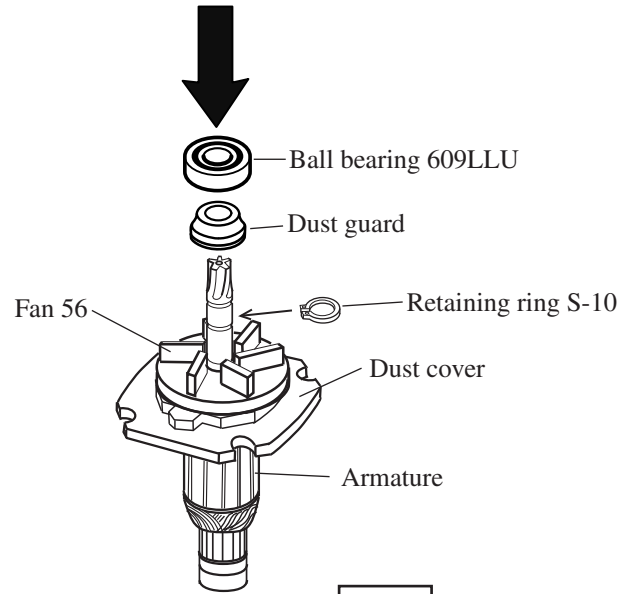

Fig.13
- (4) Assemble retaining ring S-10. And then, press dust guard and ball bearing 609LLU as illustrated in Fig.13.